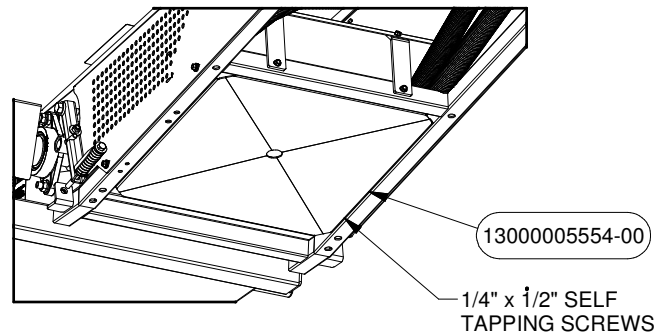

FIGURE 11
23. Attach the Bottom Guard PN# 5554 to the Intake using Self Tapping Screws that can be found in Bolt Bag PN# 5830 (See Figure 11).